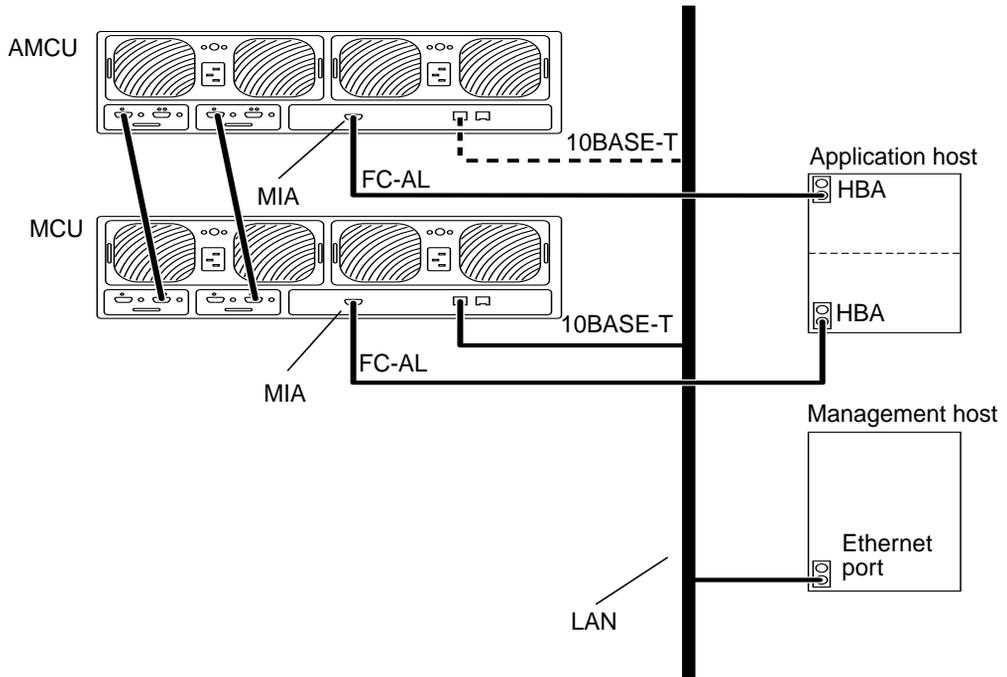

FIGURE 1-3 Sun StorEdge T3 Disk Tray Partner Group Configuration
- FIGURE 1-3 Sun StorEdge T3 Disk Tray Partner Group Configuration 5
FIGURE 1-3 shows a Sun StorEdge T3 disk tray partner group, which includes two controller units configured as a *master controller unit* and an *alternate master controller unit*.